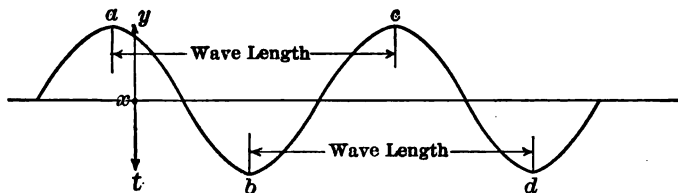

FIGURE 52.—CHARACTERISTICS OF A TRANSVERSE WAVE.
74. Characteristics of Transverse Waves. — In case of the waves in the water, in the grain, and in the rope, we find that, as the waves follow one another, parts of the material are *high* and other parts *low*. The high parts *a* and *c* (Figure 52) are called *crests*, while the low parts *b* and *d* are called *troughs*.